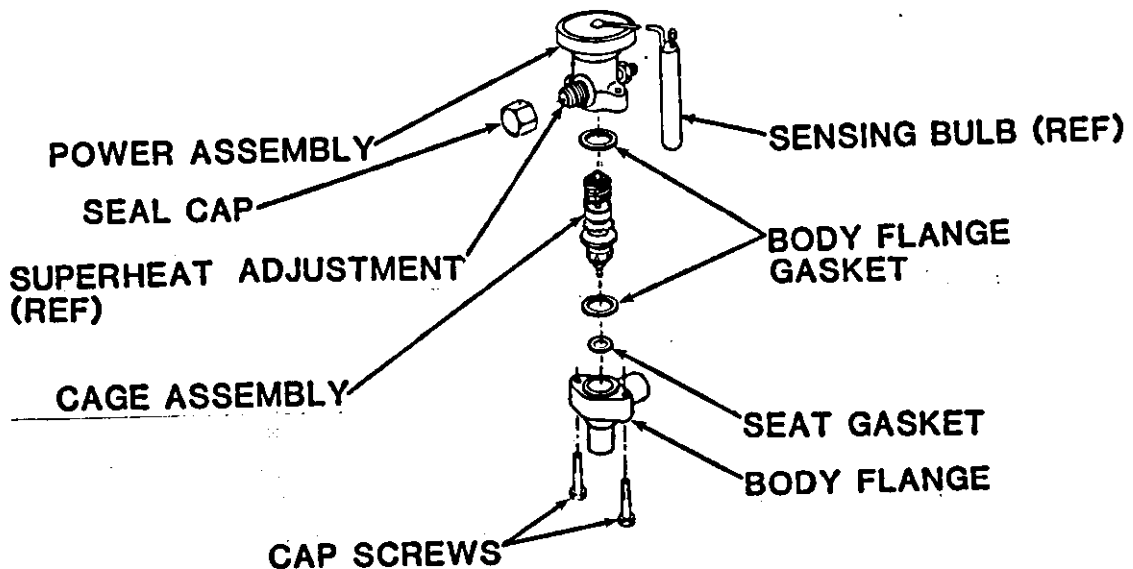

Figure 5-39. Expansion Valve Disassembly
(2) Remove the lower front panel and unwrap insulation from suction line so that sensing bulb is exposed. Loosen screw and nut in clamp. Pull bulb out of clamp.
(3) Disconnect flare nut on external equalizer line from expansion valve.
(4) Remove the two screws, flat washers, lock washers, and spacers that attach the valve body to its mounting bracket.
(5) Remove remaining valve components except from body flange. (See figure 5-39.)
(1) If valve body flange was removed, purge the system with nitrogen and braze the two tubing joints. (See para 5-30 and 5-31.)
(2) See figure 5-39 for valve component arrangement.
(3) Place cap screws, lock washers, flat washers, and spacers through bracket and valve body flange.
(4) Be sure that valve components are properly assembled and alined and secure power assembly to body flange.
(5) Connect flare nut on external equalizer line to expansion valve.
(6) Insert the sensing bulb into its mounting loop clamp in its original position and tighten the screw and nut. Be sure the sensing bulb is making good metal-to-metal contact with the suction line.
(7) Cover sensing blub with insulation tape.
(8) Replace the dehydrator. (See para 5-36.)
(9) Leak test all newly connected joints and those in the repair area. (See para 5-32.)
(10) Evacuate and charge the refrigerant system. (See para 5-33 and 5-34.)